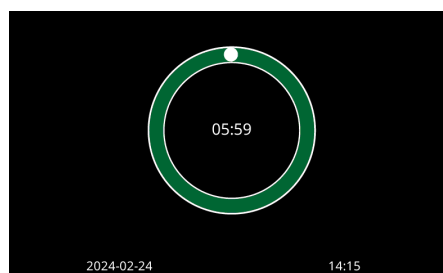

Figure 27. Patient measurement screen
- The Labmaster LUCIA™ Analyzer will automatically proceed to the measurement stage. The tray will move in and the Measurement Timer screen in Figure 27 will appear.